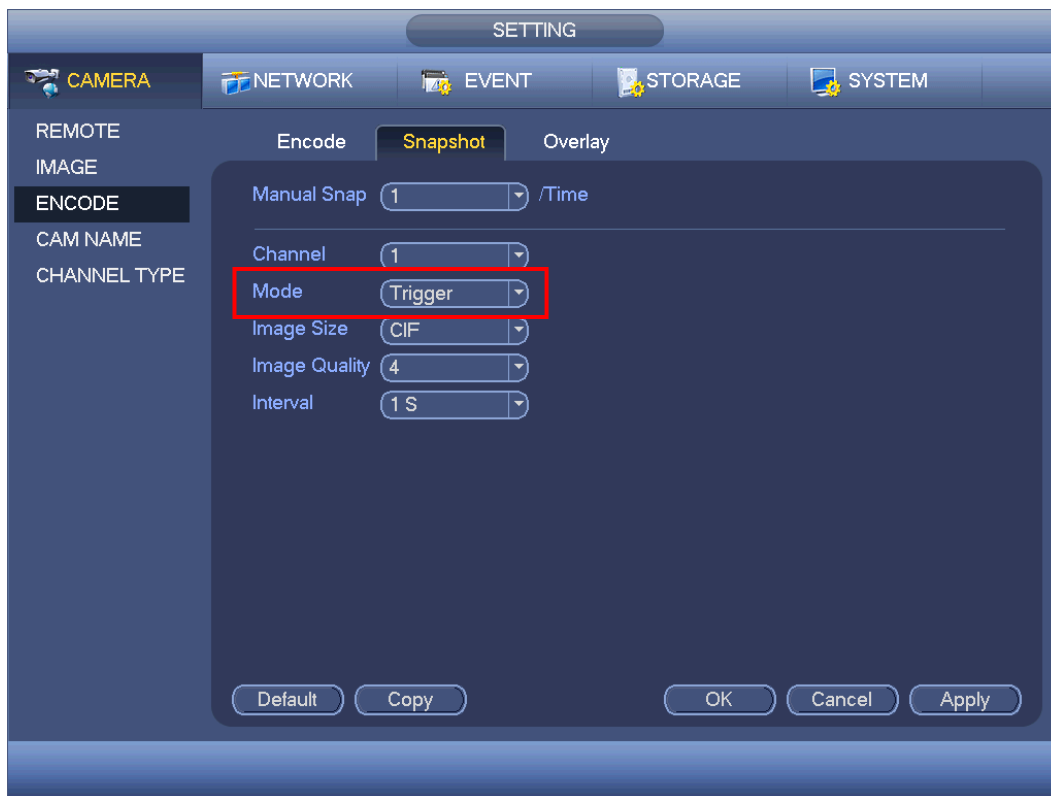

Figure 4-178
- In main menu, from Setting->Camera->Encode->Snapshot interface, here you can input snapshot mode as trigger, size, quality and frequency. See Figure 4-178.